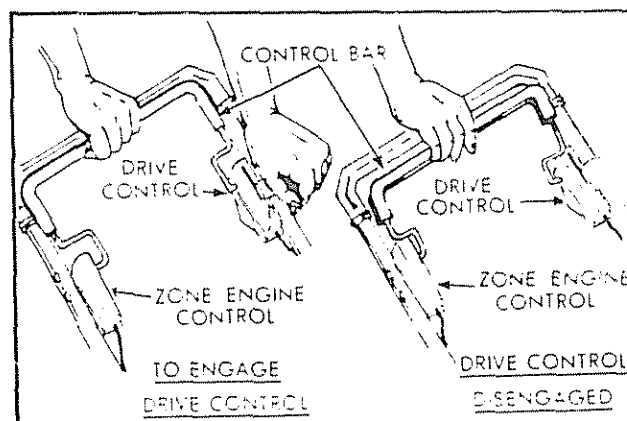

FIG. 13
Your mower is equipped with a zone/engine control attached and requires no adjustments (See Fig. 13).
The power-propelling forward motion is controlled by pulling the control bar down to handle and pushing control forward to engage position (See Fig. 13).
6. Hold, clip or tape down the drive control bar and engage the drive control (See Fig. 13).